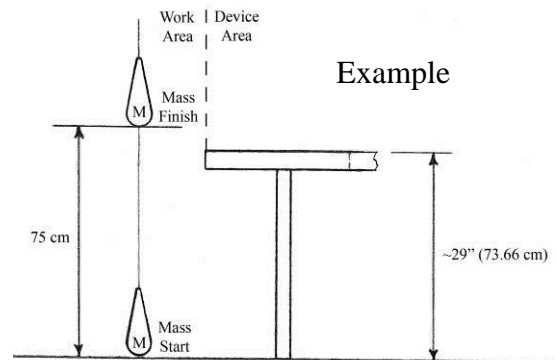

Figure 2
6. Mechanical Power – Raising a Mass (Figure 2)